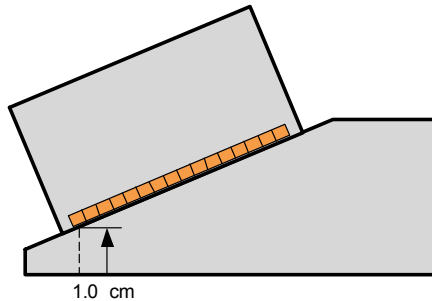

Figure 4-9 The height of the first element
- f) Select **Height**, and then enter the height of the first element (see Figure 4-9 on page 100).